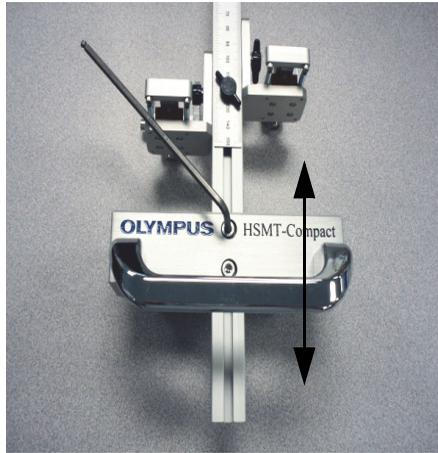

Figure 2-5 Sliding the wheel assembly onto the frame
- Slide the wheel assembly to the desired new location (see Figure 2-5 on page 22).